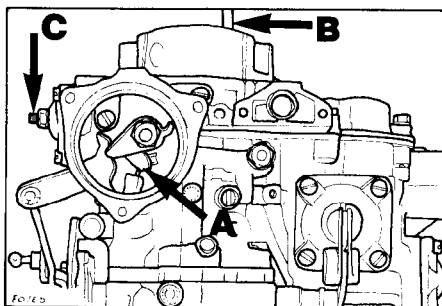

Fig. 4 Choke plate pulldown
- Partially open throttle, hold choke plates fully closed and release throttle. The stepped cam (A) should be at the highest stage as shown in Fig. 4.
- Check clearance between lower edge of choke plate and air intake wall using drill (B) of suitable diameter.
- If necessary, adjust clearance with adjusting screw (C, Fig. 4).